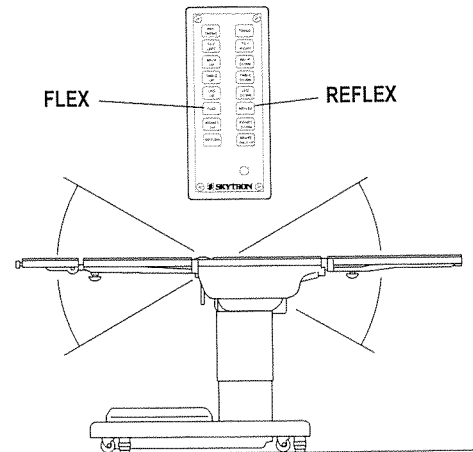

Figure 3-10. Flex/Reflex Positioning
h. Flex Positioning. To place the table top in a flex position from horizontal, press the FLEX button (figure 3-10). To return the table top to a horizontal position or into a reflex position, press the RETURN or REFLEX button.